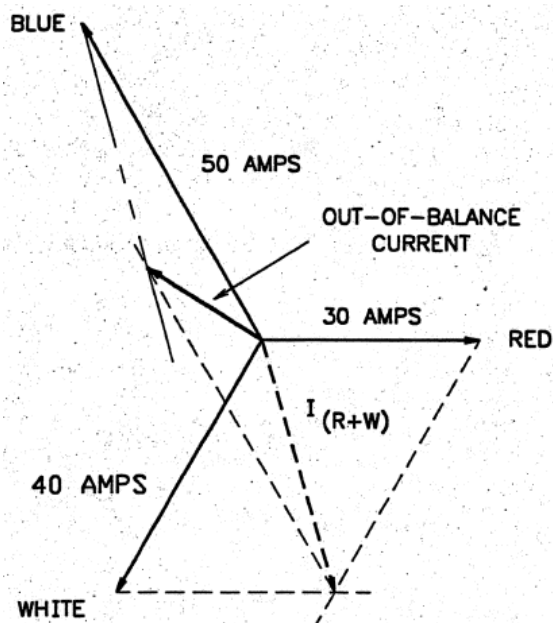

Figure 14 – Construction for Method 2
- b. **Method 2 – 120 degree Phasors** Draw the three phasors 120 degrees apart using a suitable scale. Take any two of the phasors and construct their phasor sum. Then construct the phasor sum of the resultant of the first two and the remaining phasor; the resultant is the out of balance current in the neutral as shown in Figure 14.